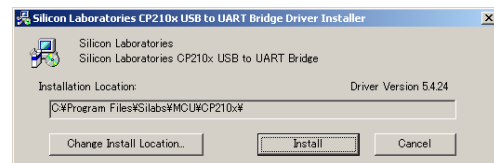

Fig. 14 USB Driver Installation Screen 5
6) Press "Install" in Fig. 14, and then concludes this operation.